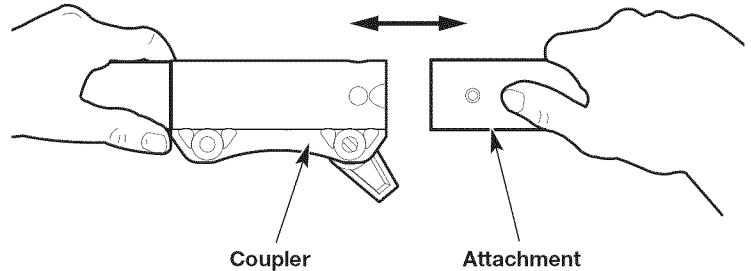
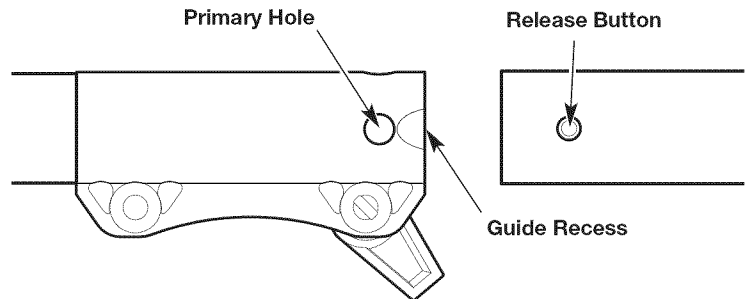

Fig. 9
Fig. 10
4. Align the release button with the guide recess (Fig. 10).
5. Push the attachment straight into the coupler (Fig. 9) until the release button snaps firmly into the primary hole (Fig. 10).
3. Press and hold the release button (Fig. 10).
4. Pull the attachment straight out of the coupler (Fig. 9).